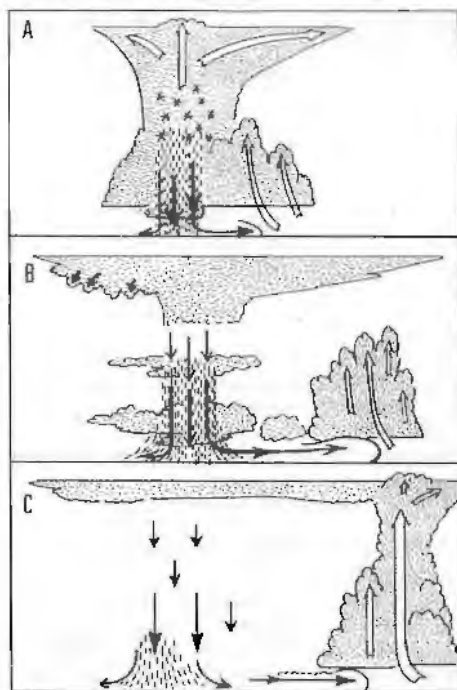

Fig 6
Even when the shower ends the air usually continues sinking for some time; this is a good reason to avoid flying through the region just behind a shower cloud. When strong sink reaches the ground it spreads out to form a gust front which may trigger off new Cb. Three stages of this process are illustrated in Fig 6. (A) shows the shower already well developed with a downdraft outflow pushing off to the right. (B) shows the original cloud collapsing and a new